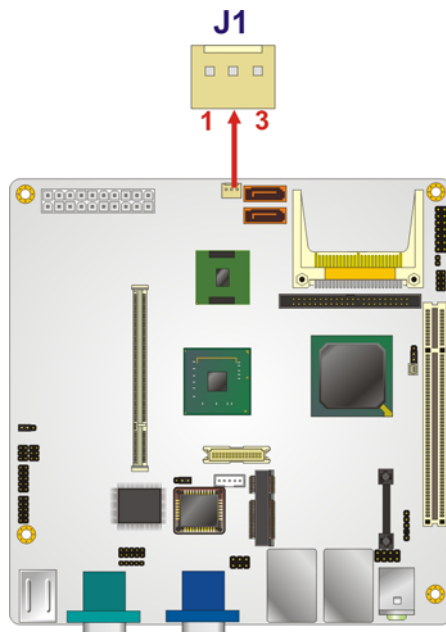

Figure 4-7: CPU Fan Connector Location
- CN Location:** See Figure 4-7